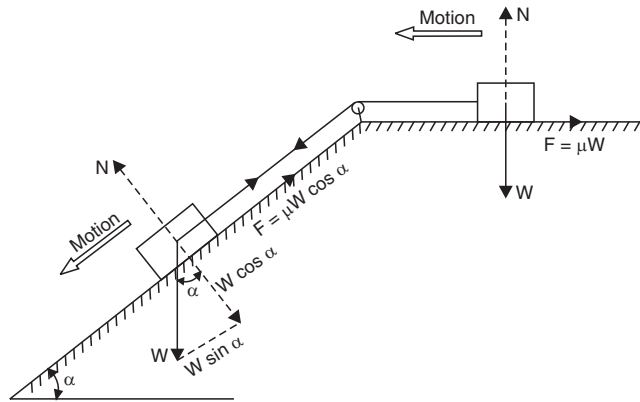

Fig. 6.16
**Example 6.5.** Two blocks of equal weights and connected by a string passing over a frictionless pulley, rest on surfaces ; one on a horizontal surface and the other on an inclined surface as shown in Fig. 6.16. For both the surfaces the co-efficient of static friction  $\mu = 0.2$ . For what value of angle  $\alpha$  the motion of the two blocks will impend ?
**Sol.** Fig. 6.16 shows the various forces acting on the two blocks.